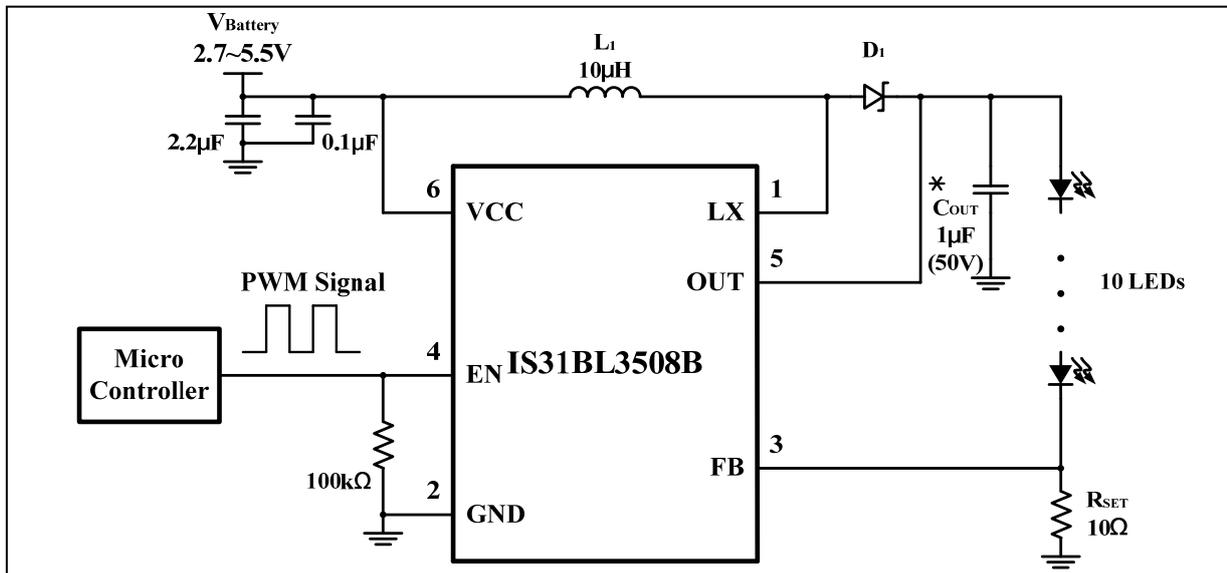

Figure 1 Constant Current White LED Driver Using PWM At The EN Pin To Control Intensity
The choice of the inductor value will affect the performance of the device. Large value inductors will reduce the current ripple in the inductor, thus reducing output voltage ripple. However large value inductors of the same current rating, typically also have larger DC resistance, thus reducing the system efficiency. For example, in Figure 1, the loads are 10 WLEDs and output current is 20mA. The maximum input current can reach 300mA. For this application a 4.7 μ H or 10 μ H 400mA inductor is sufficient.
When the IS31BL3508B is used for LED driving applications (Figure 1), the LED current flows through the external feedback resistor R_{SET} to regulate the LED current. The internal feedback regulation point is 0.2V. The maximum LED current may be calculated by the following Equation (1).
The EN pin of the IS31BL3508B can accept a PWM signal to implement LED dimming (Figure 1). LED current may be computed using the following Equation (2).